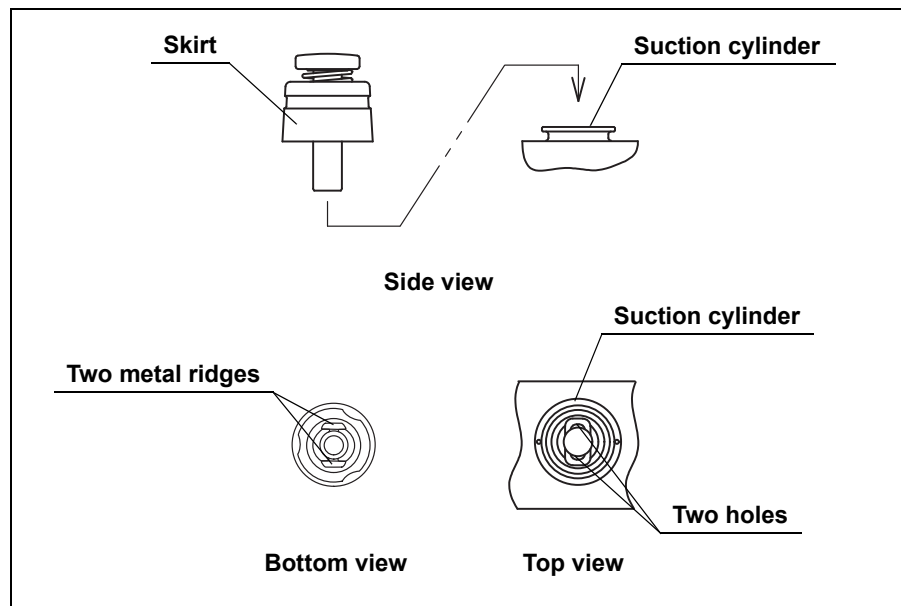

Figure 3.16
2. Attach the suction valve to the suction cylinder of the endoscope (see Figures 3.16 and 3.17). Confirm that the valve fits properly without any bulging of the skirt. Also confirm that the valve cannot be rotated.